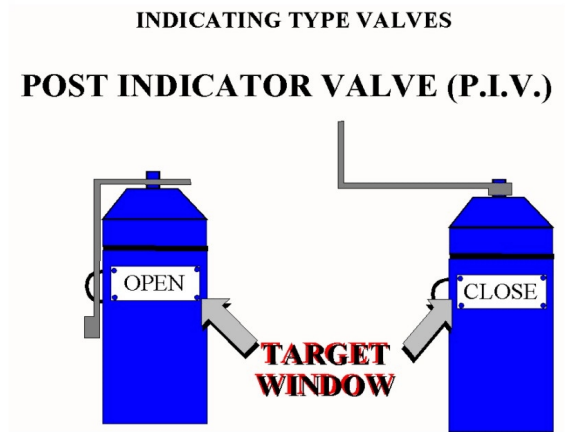

Figure 7
- Post Indicator Valve (PIV) [See Figure 7]